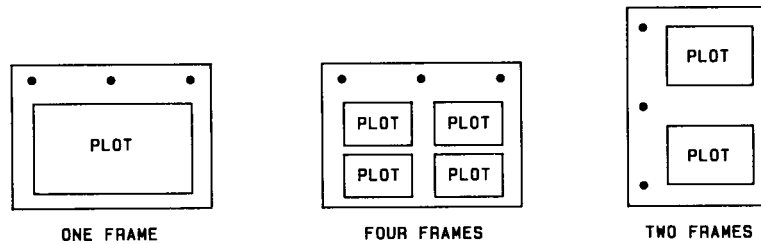

Figure 4-5. Plot Formats
- recreate the spectrum analyzer display in three different formats that contain from one to four plot positions, refer to Figure 4-5. (Available only for output devices connected to the GPIB interface.)